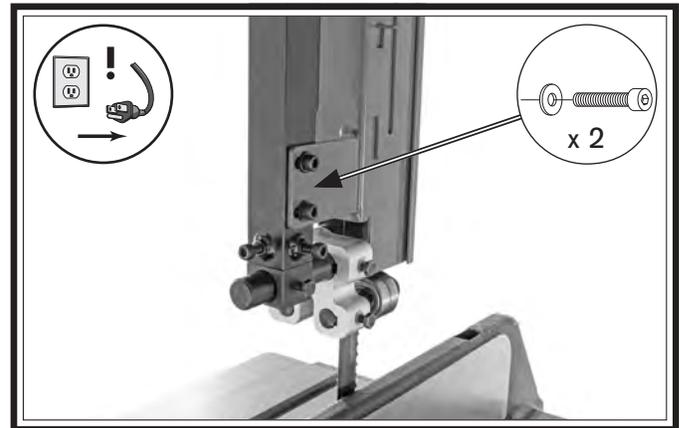

Figure 97. Location of screws and flat washers that secure guide post guard.
3. Remove (2) cap screws and flat washers that secure guide post guard, then move it up and out of the way (see **Figures 97–98**).